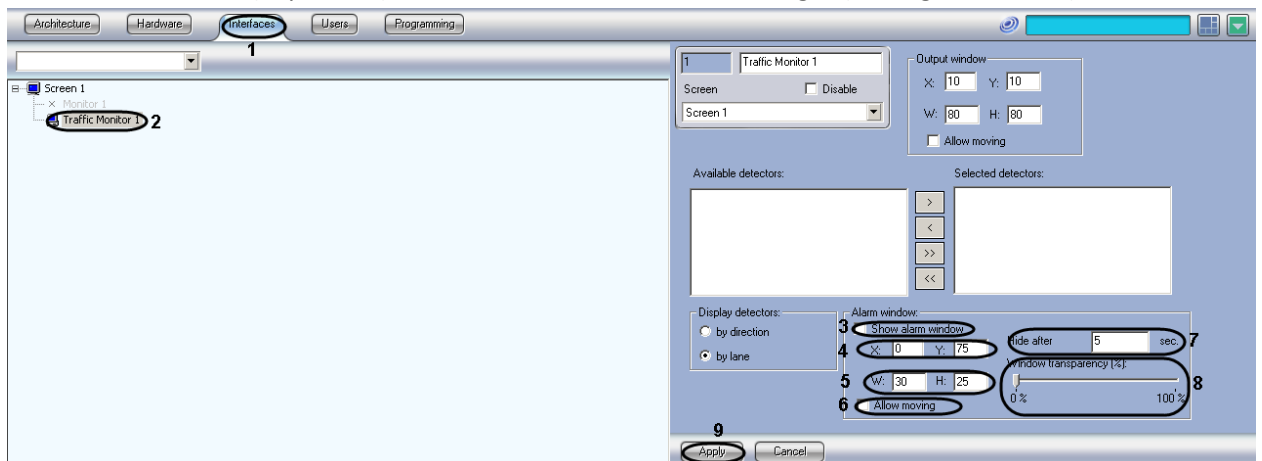

Fig. 7.10—1 Setting up the Alarm window position
Note. Click Cancel to close the Settings dialog window without saving the changes (Fig. 7.10—1, 7).
1. Open the «Interfaces» tab in the System Settings window (see Fig. 7.10—1, 1).
2. Select the «Traffic Monitor» object in the object tree (see Fig. 7.10—1, 2).
3. By default, the Alarm window is not displayed. To open the Alarm window, check the «Show alarm window» checkbox (see Fig. 7.10—1, 3).
4. To change the window position, enter the values in the X and Y fields (see Fig. 7.10—1, 4). The values must correspond to the coordinates of the upper left corner of the window as a percentage of the screen width and height, respectively.
5. To change the window size, enter its width in the W field and its height in the H field as a percentage of the screen dimensions (see Fig. 7.10—1, 5).
6. By default, the Alarm window cannot be moved around the screen. To enable window movement, check the «Allow moving» checkbox (see Fig. 7.10—1, 6).
7. In the «Hide after» field, enter the number of seconds that the window will be displayed until it is closed (see Fig. 7.10—1, 7).
8. Set the Alarm window transparency level using the Window transparency slider. By default, the Window transparency window is displayed opaque (minimum transparency). The transparency level increases (in percent) when the slider is moved to the right (see Fig. 7.10—1, 8).
9. Click «Apply» (see Fig. 7.10—1, 9).